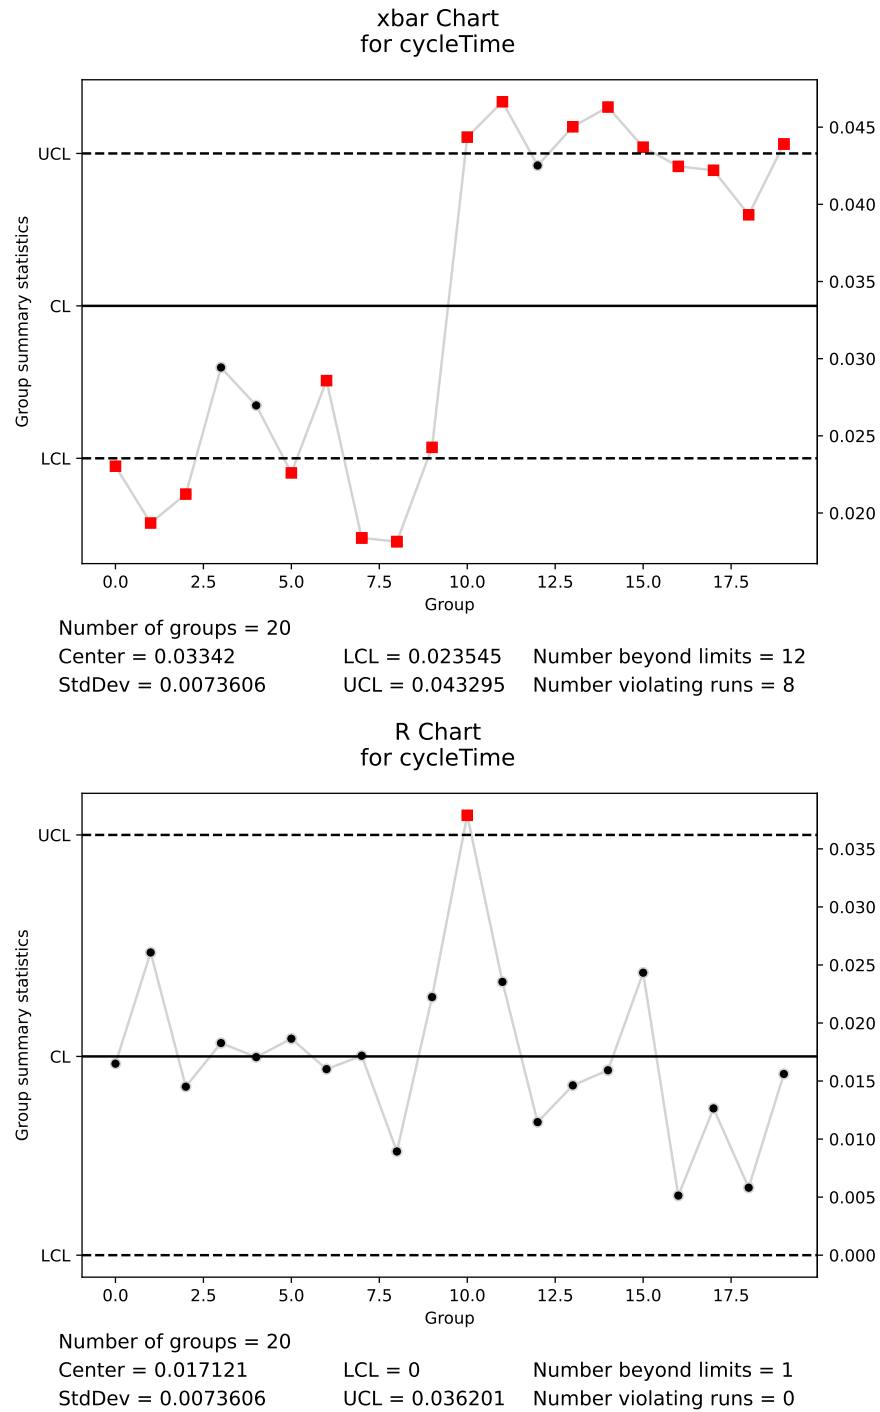

Fig. 2.7: Control charts for randomized cycle time in Piston simulation (Excer-
**Part II (b)** Fig. 2.7 is created using the following code.
See the control charts in Fig. 2.7. Due to the randomization of the cycle times, the increased values are distributed over all groups and the mean cycle time increases by 0.01. The variability as shown in the R chart is increased too.